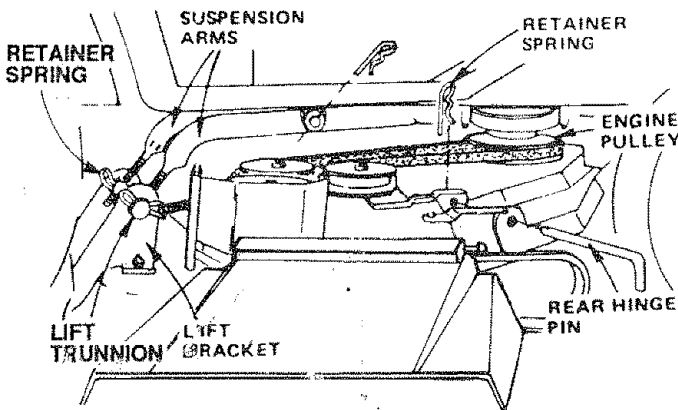
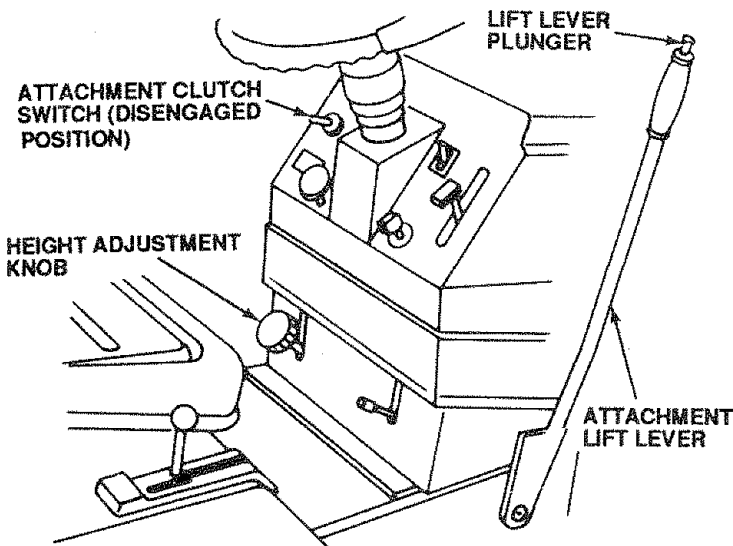
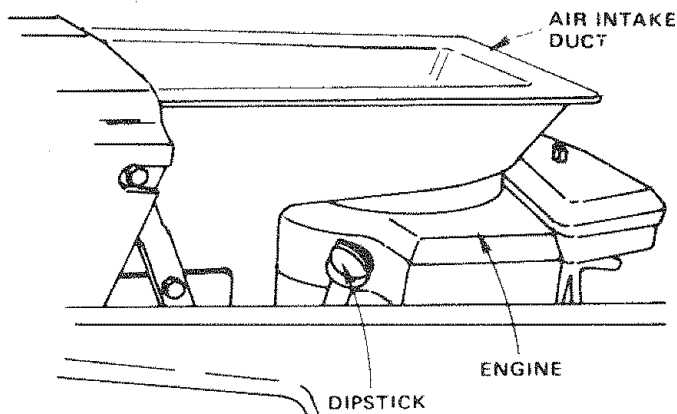

FIGURE 8
FIGURE 9
FIGURE 12
- Raise attachment lift lever (Fig. 9) to its highest position.
- Install rear hinge pin through mower lift brackets and parallel link (Fig. 8). Secure with retainer spring.
- Move attachment lift lever (Fig. 9) forward to lower suspension arms. Remove retainer springs from lift trunnions (Fig. 8).
- Slide trunnions through upper lift bracket holes and secure with retainer springs (Fig. 8).
- Pull L.H. idler pulley (Fig. 12) toward the right hand side of the tractor and roll belt over engine pulley (Fig. 8).
- Use attachment lift lever (Fig. 9) to raise mower.